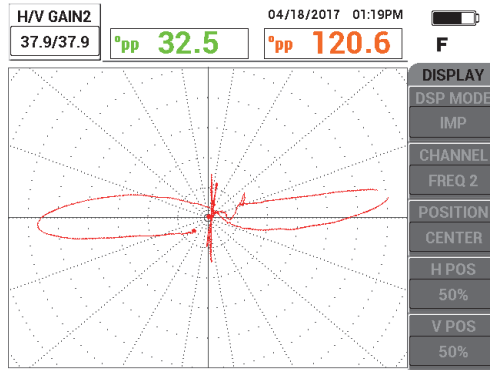

Figure 5-201 GAIN adjustment in FREQ 2
6. Adjust the support ring signal so that it is not being clipped by the screen (8 to 9 major divisions) [see Figure 5-201 on page 271].